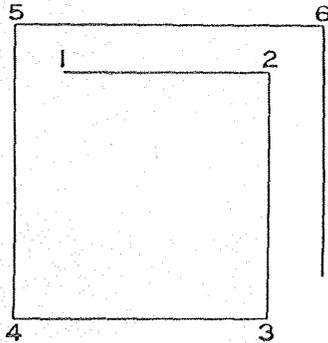

Fig.8
8. LEARNING TO OPERATE THE MACHINE (Fig. 8)
Mark a design (see Fig. 8) on 30 cm (12 inch) square piece of cloth. Place cloth under presser foot so that the needle will enter cloth at point 1. Turn handle ④, Fig. 6 to the right and the hook of the needle will be turned in the same direction. Lower presser foot, start machine pulley by turning it over away from you, grasp handle ④ and pull it down to start the machine. With handle depressed and to the right, cloth will be fed to point ②, then turn handle to the front and cloth will be fed to point ③ turn handle to the left and cloth will be fed to point ④ etc.